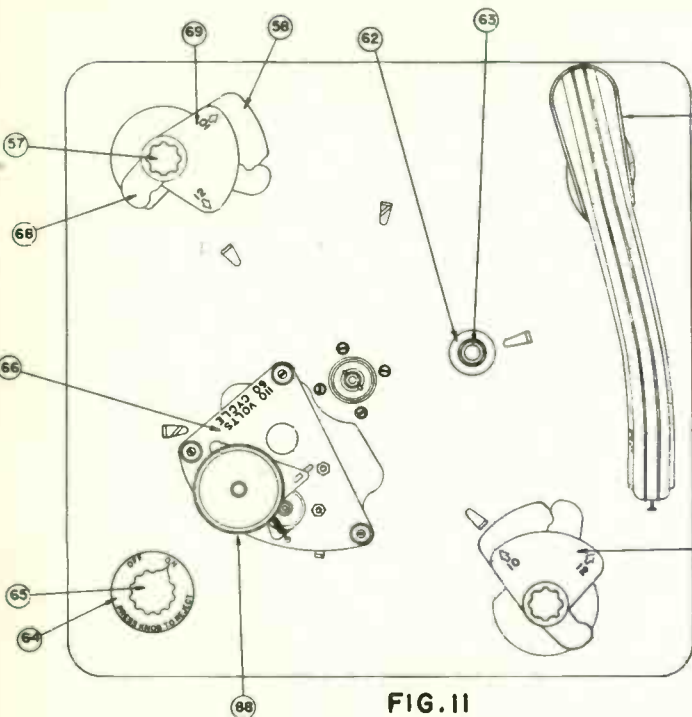
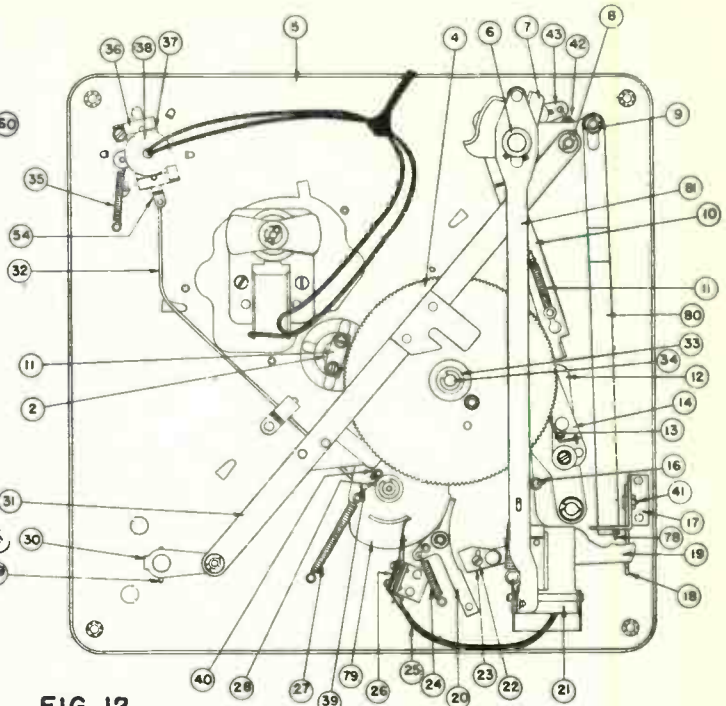

FIG. 11
FIG. 12
1. Swing tone arm outward until tone arm lever assembly, (Item 19, Fig. 12) latches with tone arm latch lever, (Item 18, Fig. 12) which is held to the tone arm shaft, (Item 77, Fig. 13) by two setscrews.
2. Make sure these setscrews are tight and that there is a slight play between the tone arm lever assembly and the panel. (Item 5, Fig. 12). This will give proper clearance at ball race assembly, (Item 74, Fig. 13).
The tone arm lever assembly, (Item 19, Fig. 12), is held against tone arm latch lever, (Item 18, Fig. 12) by the tension of tone arm locator lever spring, (Item 16, Fig. 12).
4. Now move tone arm, (Item 60, Fig. 11) until its outside edge is  $\frac{1}{8}$ " from the outside edge of the panel (Item 5, Fig. 12) and re-tighten screw securely.
If the Record Changer does not go into its changing cycle when the needle has reached the above-mentioned distance, the Tone Arm Trip Lever Shoe, (Item 23, Fig. 12), should be moved toward the outside edge of the panel. To do this, it is necessary to loosen the thumb nut, (Item 22, Fig. 12), and then retighten after adjustment has been made.
2. Check Trip Rod, (Item 32, Fig. 12), to make sure it releases Trip Lever Assembly, (Item 20, Fig. 12), from Engagement Clutch Cam Assembly, (Item 79, Fig. 12), when Switch Knob is being turned on. If Trip Lever Assembly is not released, Trip rod should be shortened by bending until Trip Lever clears Engagement Clutch Cam Assembly, when Switch Knob is turned.
3. Make sure that Clutch Reset Pawl, (Item 40, Fig. 12) clears Drive Link Assembly, (Item 31, Fig. 12).
(A) Trip Lever Assembly, (Item 20, Fig. 2) does not latch in Engagement Clutch Cam Assembly (Item 79, Fig. 12), which may be due to causes listed below:
1. Trip Rod (Item 32, Fig. 12), may be bent so that it is too short, holding Trip Lever Assembly from contacting Engagement Clutch Cam Assembly.
2. Springs (Item 24 or 35, Fig. 12) may be disconnected.
1. Muting switch (Item 26, Fig. 12), may be out of adjustment. The contacts of this switch should be open whenever its long blade is not resting on the shoe of the Engagement Clutch Cam Assembly (Item 79, Fig. 12). If the contacts remain closed after the long blade has left the shoe, they should be adjusted by bending until there is a separation of approximately  $1/32$ ".
4. Set Rod (Item 56, Fig. 13), is operated by Selector Arm (Item 61, Fig. 11). The 12" Set Link (Item 10, Fig. 11), operates as a stop when Record Changer is set for 12" records. When Tone Arm Locator Assembly (Item 12, Fig. 11) contacts 12" Set Link the Tone Arm should be in the correct position to play a 12" record.
If at this point, the position of Tone Arm is incorrect, loosen the screw which holds the Tone Arm Locator Shoe 12" (Item 14, Fig. 11) and move in either direction as required and tighten screw.
Check clearance between Roller (Item 51, Fig. 13), and Selector Crank Shaft Assembly (Item 7, Fig. 12). There should be approximately  $1/32$ " clearance at this point. If the clearance is greater, it would be due to the pressure on the Spring Washer (Item 50, Fig. 13) being too great. This will prevent the Tone Arm Lifter Reset Spring (Item 82, Fig. 13) from returning the Tone Arm Lifter Link Assembly (Item 81, Fig. 12) sufficiently. To relieve the pressure on the Spring Washer, lower the Selector Shaft Collar (Item 6, Fig. 11) slightly.